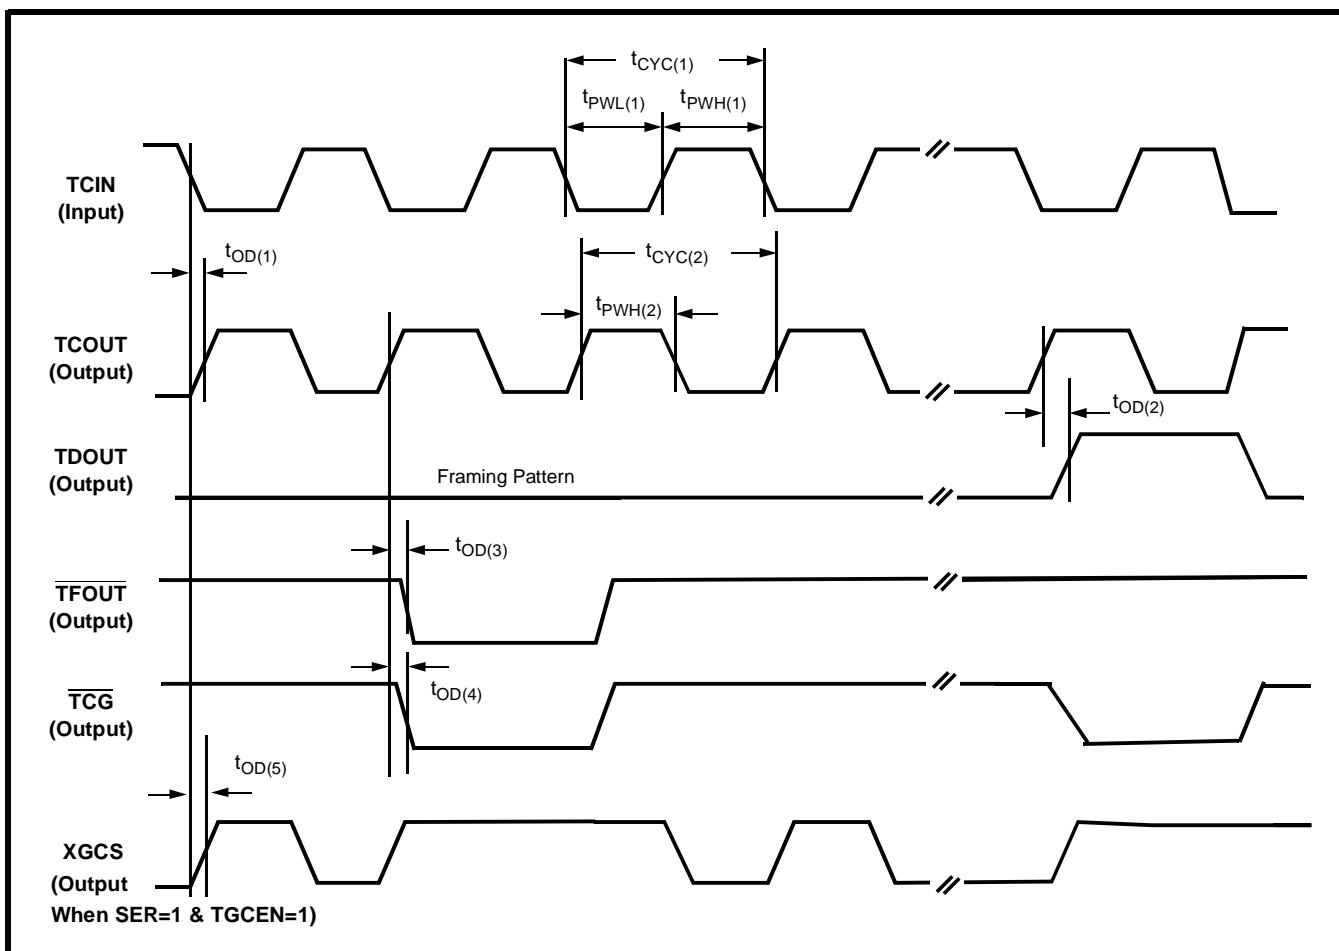

Figure 17 - Transmit Reference Generator Timing
* Note: An additional XGCS is provided by the transmit reference generator (shown in Figure 17) on pin 66 if SER=1 and TGCEN=1.
AC Electrical Characteristics - Transmit Reference Generator Timing (Figure 17)